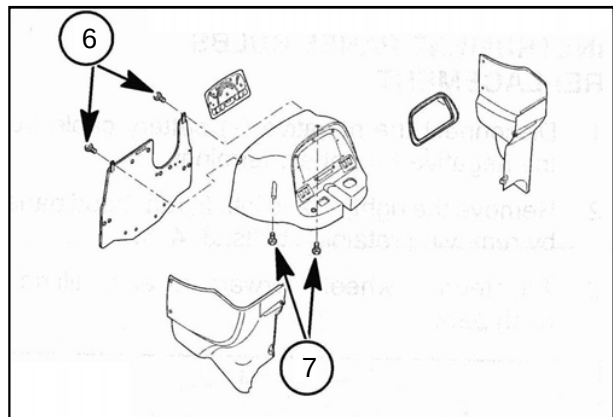

Figure 3-39
3. Remove the two front retaining bolts (6) in Figure 3-39.
4. Remove the left and right underside retaining screw (7) in Figure 3-39 from dash panel.